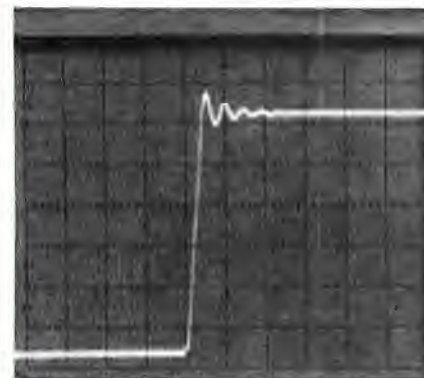

Fig. 11. Excessive overshoot caused by scope's poor response.
When comparing oscilloscopes, it is sometimes necessary to convert a specification from one form to another to determine how each scope measures up. If the bandwidth (BW) is known and you wish to know the risetime ( $t_r$ ), or vice versa, just divide the known quantity into 0.35. The general formula is  $BW \times t_r = 0.35$ . Bear in mind, however, that this formula works only if the response of the scope rolls off smoothly, until it is close to 12 dB down at twice the -3-dB frequency. If the scope does not follow this Gaussian curve, excessive overshoot (more than 2% or 3%) occurs as shown in Fig. 11. If the scope does have a Gaussian response, it may be usable at frequencies up to twice the rated limit.